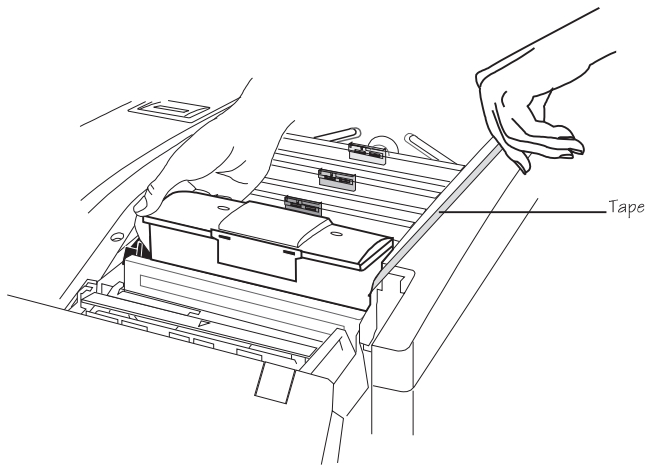

Fig. 2.12 Remove Sealing Tape (rear view)
12. Hold the toner cartridge in place with one hand as you pull the tab and attached clear tape straight up and completely out of the cartridge (fig. 2.12) using the other hand. Then discard the tab and tape.